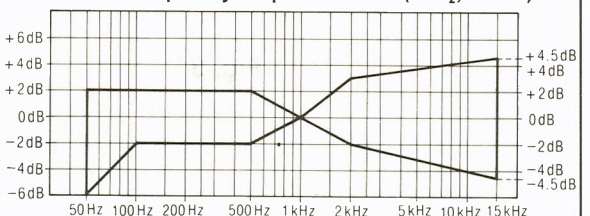

Fig. 14
8. Change test tape to CrO2 reference blank test tape (QZZCRX), and record 1kHz, 50Hz, 100Hz, 200Hz, 500Hz, 4kHz, 8kHz, 10kHz and 15kHz signals. Then, playback the signals and check if the curve is within the limits shown in the overall frequency response chart for CrO2 tapes (fig. 14).
9. Place UNIT into metal tape mode and change test tape to metal reference blank test tape (QZZCRZ), and record 1kHz, 50Hz, 100Hz, 200Hz, 500Hz, 4kHz, 8kHz, 10kHz, 12.5kHz and 15kHz signals. Then, playback the signals and check if the curve is within the limits shown in the overall frequency response chart for metal tapes (fig. 14).